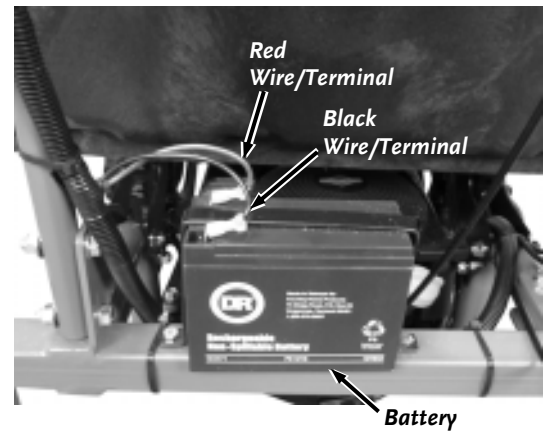

Figure 26
2. Connect the red wire to the red Terminal and connect the black wire to the black Terminal (**Figure 26**).